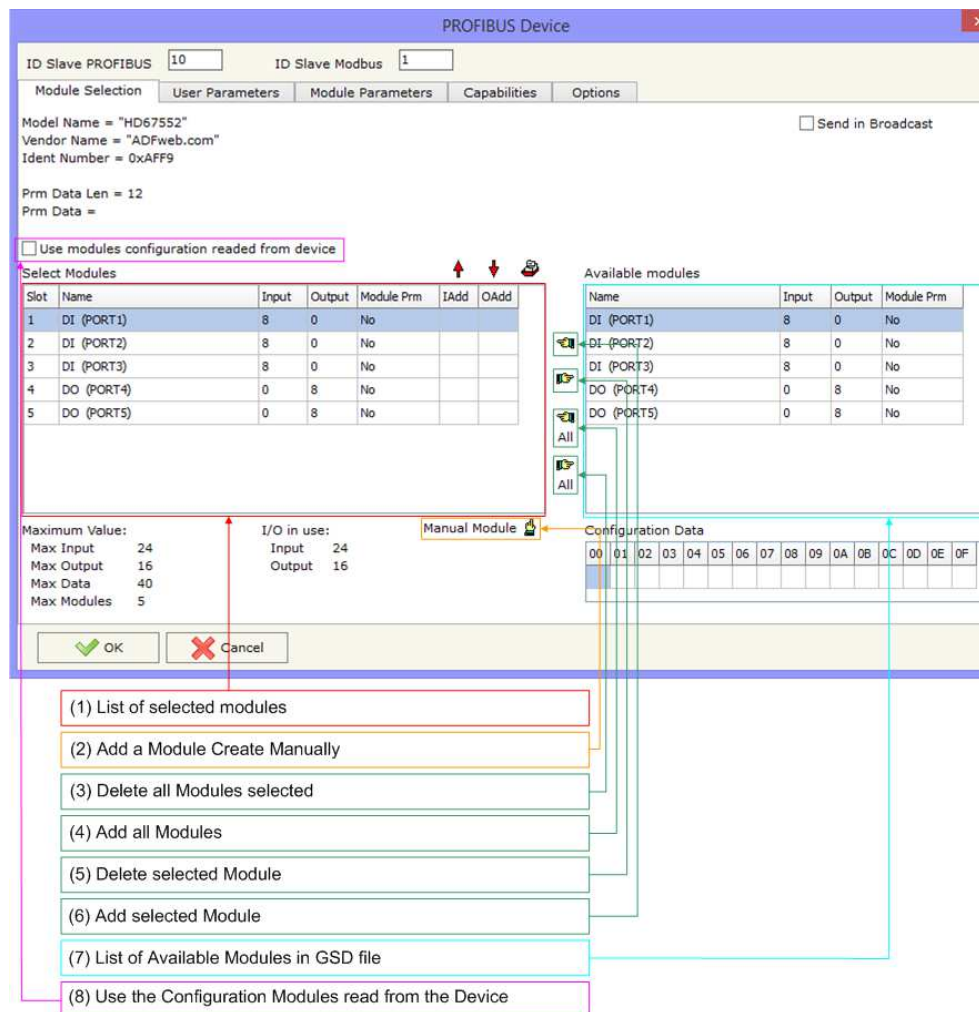

Figure 7: "PROFIBUS Device – Module Selection" window
The section "Module Selection" is used to select which Modules are present in the Slave (Fig. 7).
- Check the list of the Modules selected ("Select Modules") (Fig. 7, point (1)) and the list of Modules Available in GSD file ("Available Modules") (Fig. 7, point (7));
- Add a Module from the list of GSD file (Fig. 7, point (6));
- Remove a Module from selected list (Fig. 7, point (5));
- Add all Modules present in the GSD file (Fig. 7, point (4));
- Remove all Modules from selected list (Fig. 7, point (3));
- Insert a Module not present in the GSD file ("**Manual Module**") (Fig. 7 point (2)). For more info see the section "Manual Module" below;
- Enable the read of configuration directly from the PROFIBUS Slave ("**Use module configuration readed from device**") (Fig 7, point (8)). If this option is enable the configuration of the modules is discarded and the device read the correct configuration directly to the PROFIBUS slave.
To modify a Module inserted manually, is necessary to do a double click on the module to change in the "Select Module" list (Fig. 7, point (1)). It is possible to change only the module inserted manually.
If the Fig. 7 appears when you try to do the Update before require assistance try these points: